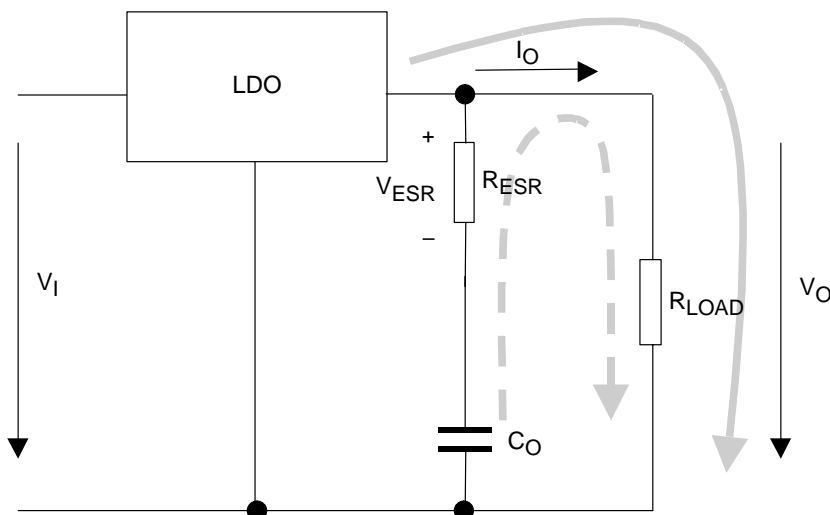
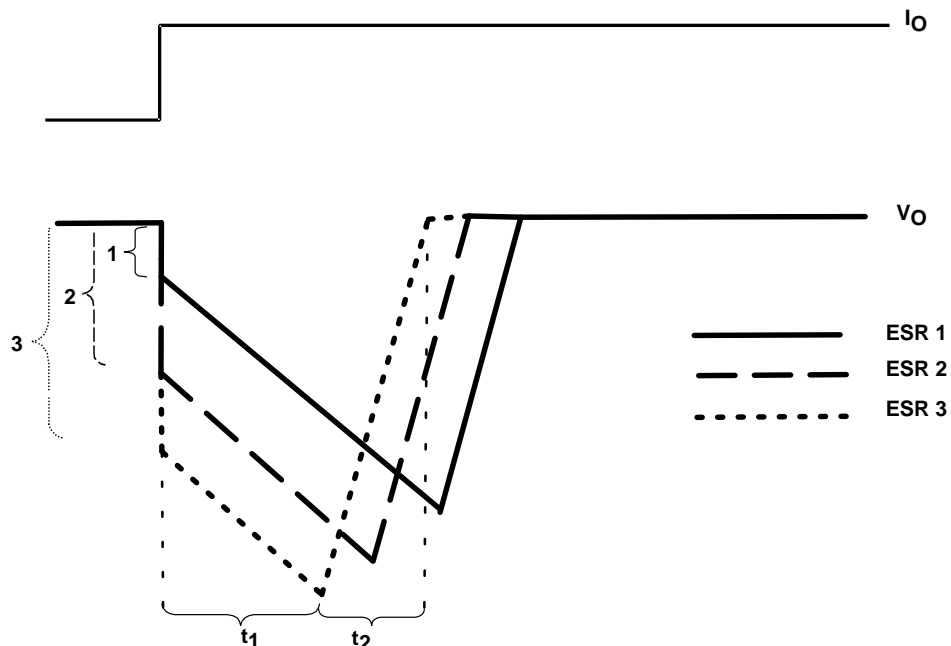

Figure 22. LDO Output Stage With Parasitic Resistances ESR and ESL
Figure 23. Correlation of Different ESRs and Their Influence to the Regulation of V_O at a Load Step From Low-to-High Output Current
Figure 22 shows the output capacitor and its parasitic impedances in a typical LDO output stage.
- The LDO is not able to supply the sudden current need due to its response time (t_1 in Figure 23). Therefore, capacitor C_O provides the current for the new load condition (dashed arrow). C_O now acts like a battery with an internal resistance, ESR. Depending on the current demand at the output, a voltage drop will occur at R_{ESR} . This voltage is shown as V_{ESR} in Figure 22.
- When C_O is conducting current to the load, initial voltage at the load will be $V_O = V(C_O) - V_{ESR}$. Due to the discharge of C_O , the output voltage V_O will drop continuously until the response time t_1 of the LDO is reached and the LDO will resume supplying the load. From this point, the output voltage starts rising again until it reaches the regulated voltage. This period is shown as t_2 in Figure 23.
Figure 23 also shows the impact of different ESRs on the output voltage. The left brackets show different levels of ESRs where number 1 displays the lowest and number 3 displays the highest ESR.